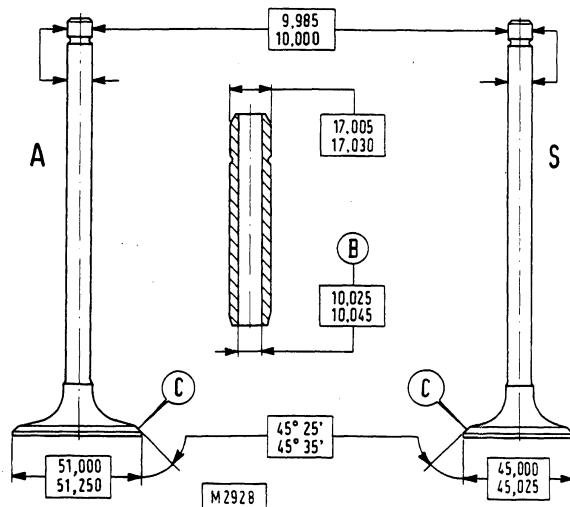

Fig. 21 - Standard valve and valve guide dimensions.
- Check valves and guides for size, and check stem-to-guide clearance by resting the dial gauge stylus on the valve face (C, fig. 21). Maximum clearance is 0.20 mm or 0.007 in, while maximum out-of-round is 0.04 mm or 0.0015 in.